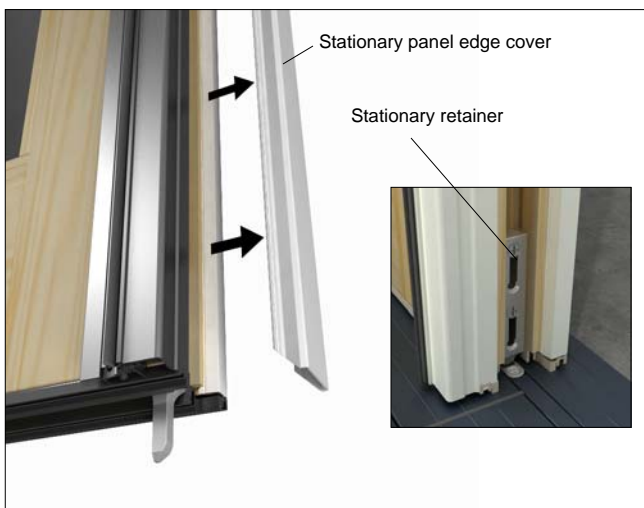

Figure 12
4. Remove stationary panel stile edge cover. Loosen screws from stationary retainers and slide to unlocked position and re-tighten screws. See figure 12.